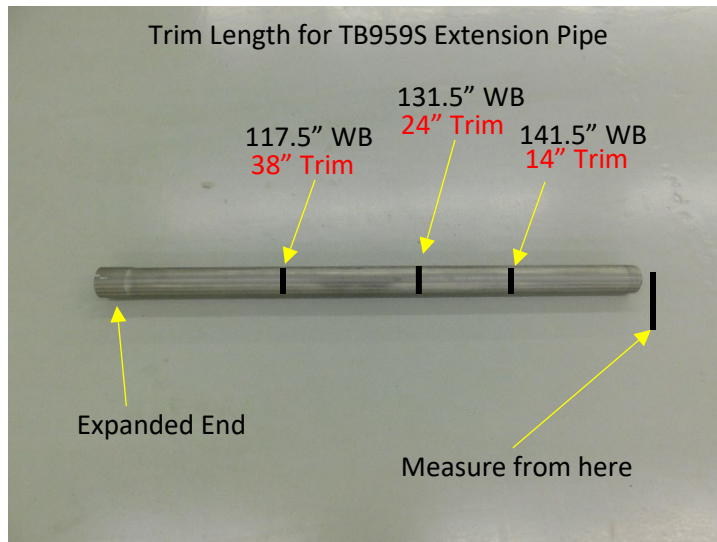

Figure.2
Important: If trimming Muffler extension pipe is required, Measure from the end opposite the expanded and notched section. **Figure.2**
4. Use the extension pipe reference chart to determine the correct cut length for your wheelbase vehicle. Trim the extension pipe as shown in **Fig.2**